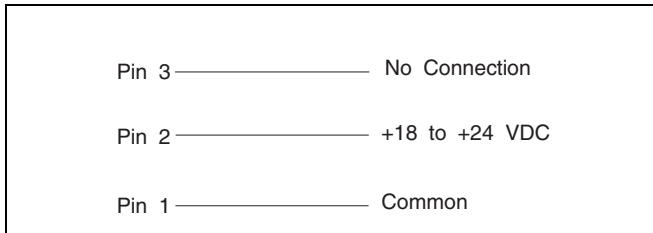

FIGURE 3. LINE LOOP Connector Wiring for 2-Channel Operation with Non-RTS Power Supply
3. On the bottom side of the main circuit board, cut the trace as shown in Figure 3.